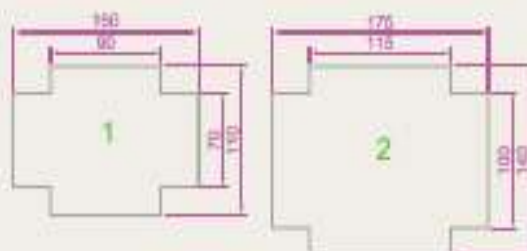

Fig. 5.55 Exercise 9
9. Construct the left-hand drawing of Fig. 5.55. Include the dimensions in your drawing. Then, using the **Stretch** tool, stretch the drawing, including its dimensions to the sizes as shown in the right-hand drawing. The dimensions are said to be **associative** (see Chapter 6).